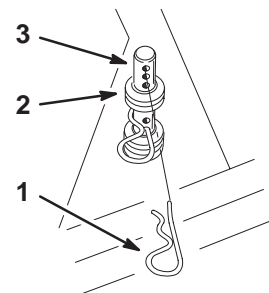

Figure 11
1. On the opposite side of the muffler, install unused washers and hairpin cotter pins into front and rear height-of-cut pins (Fig. 11).